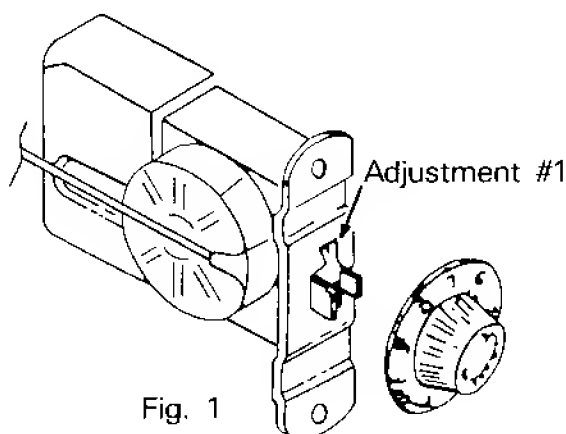

Fig. 1
(Outside Range). See Fig 1.
(Fig. 1)	7, 5, 3, 1, 2, 4, 6, 8 or
On the inside of the Control Panel, the select buttons and switches are numbered to assist in identifying them. If not numbered, then Push Button arrangement is as shown in (1) one of the foregoing diagrams, i.e., Fig. 1, 2, 3 or 4.
Figure 1 represents a control panel on which the select buttons are arranged in a vertical pattern of two rows and the power feed begins with the highest odd numbered switch to the lowest odd numbered switch, then to the lowest even numbered switch to the highest even numbered switch.
Although all circuit problems are not necessarily found to be one or more inoperative select switches, the examples listed below are typical of select switch problems found in the control panel. Refer to Fig. 1, page 41.